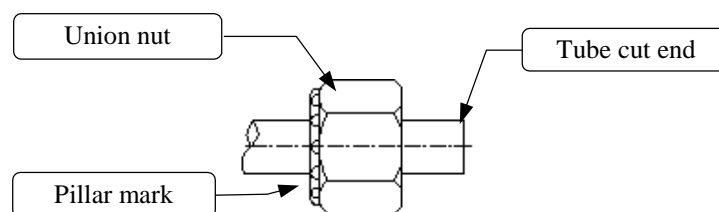

Figure 4. Direction of the union nut on the tube
- The union nut is direction sensitive (refer to Figure 4). If the union nut is in the incorrect direction, the sleeve of the pillar fitting cannot be engaged in the union nut.